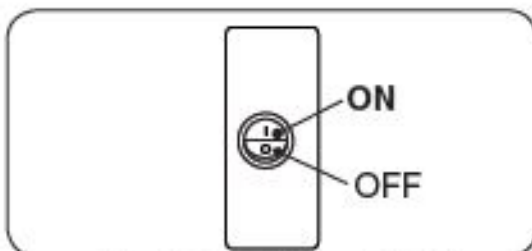

Fig. 19-2 Switch box, ON/OFF
2. Locate the ON/OFF switch at the front of the switch box. Press the switch to the ON (I) position. See Fig. 19-2.